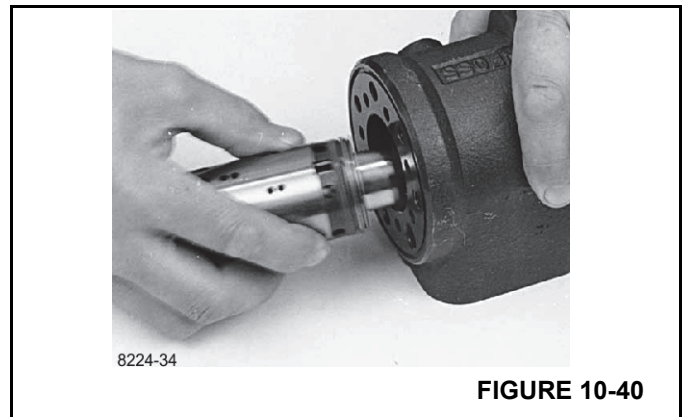

FIGURE 10-40
- 14. With a light turning movement, guide the spool and sleeve into the bore. Fit the spool assembly holding the cross pin horizontal (Figure 10-40).